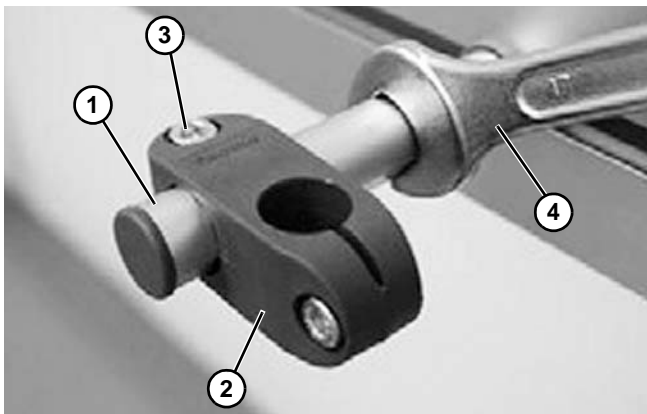

Figure 74
2. Attach the guide rail (**Figure 74, item 1**) to the clamp (**Figure 74, item 2**). Tighten the screw (**Figure 74, item 3**). Remember, do not over tighten the screw.
3. Use a wrench (**Figure 74, item 4**) to tighten the guide rail to the frame. Remember, do not over tighten the screw. Install remaining brackets.